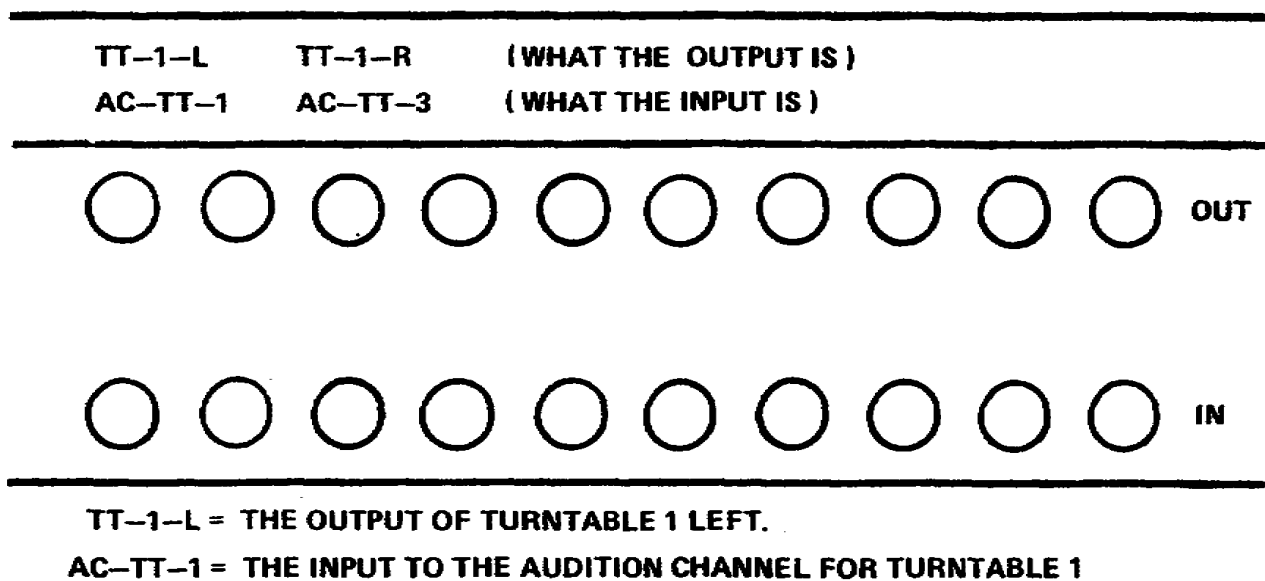

Figure 2-30. Patch panel
- a. Above each pair of plug receptacles are labels describing what the various outputs and inputs are (fig 2-30).